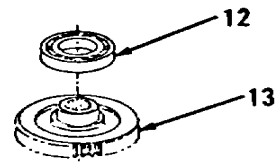

Figure 3-188.
12. Using suitable press, remove bearing (12) from gear (13, Figure 3-188).